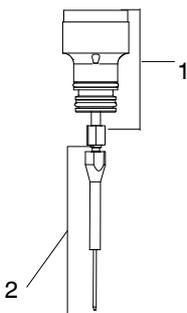

Figure 20: Piston/Cartridge Assembly and Needle Assembly
- a. See Figure 20. Using two 5/16 in. open wrenches, loosen the needle from the cartridge rod.
AG900+S Module: See Figure 20. Install the new needle assembly onto the piston/cartridge assembly. Turn until the needle bottoms out against the end of the piston shaft.